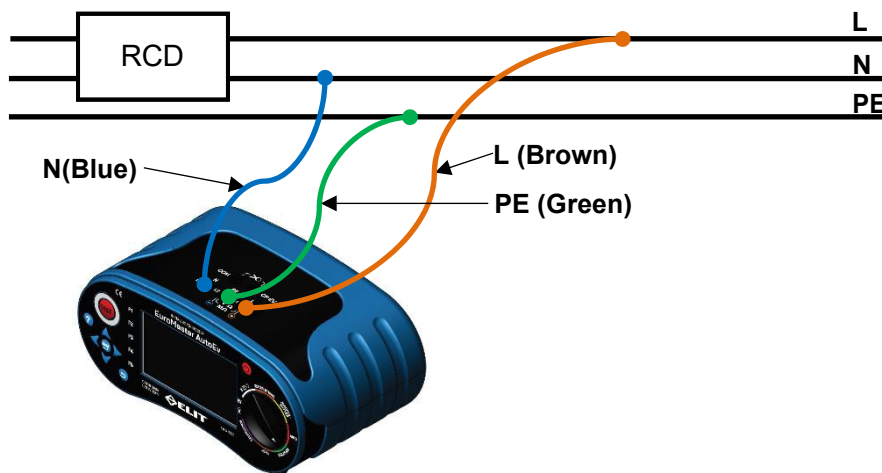

Figure 6.5.1 Loop / No Trip Connection.
- II. Connect the test leads as shown in Figure 6.5.1.